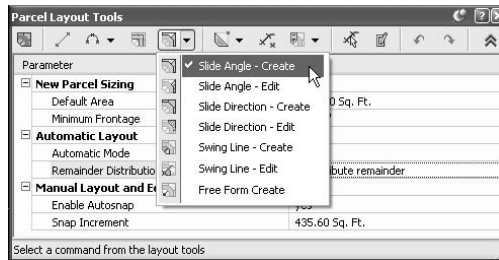

Figure 6.11
10. At the Select start point on frontage: prompt, use your endpoint osnap to select the end of the lot line that you created in the last exercise, as shown in Figure 6.11. The parcel jig will appear along the road frontage.